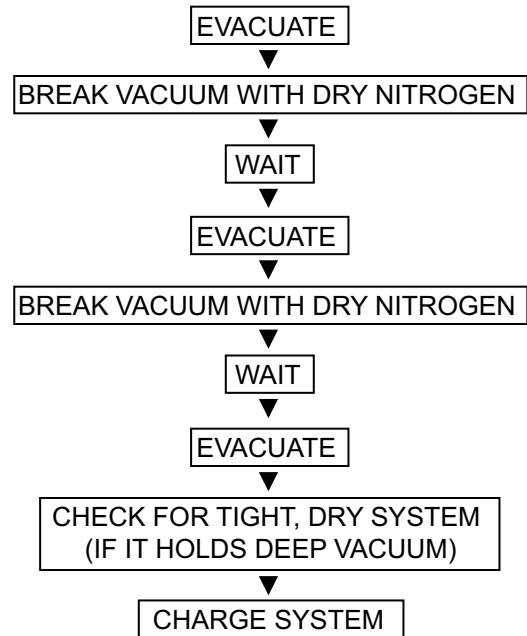

Fig. 57 – Triple Evacuation Method
The triple evacuation method should be used when vacuum pump is only capable of pumping down to 28 in. of mercury vacuum and system does not contain any liquid water. Refer to Fig. 57 and proceed as follows:
5. Repeat this procedure as indicated in Fig. 57. System will then be free of any contaminants and water vapor.